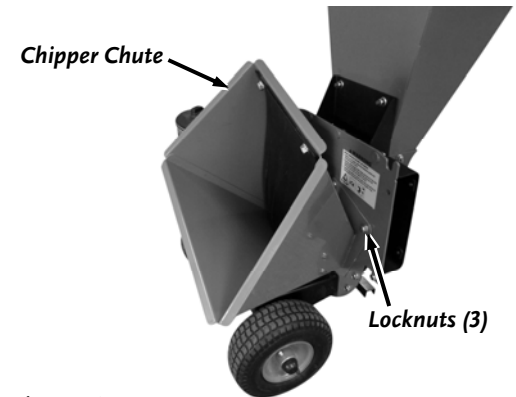

Figure 21
2. Use a 1/2" Wrench to remove the three Locknuts that secure the Chipper Chute and lift it off the machine (**Figure 21**).